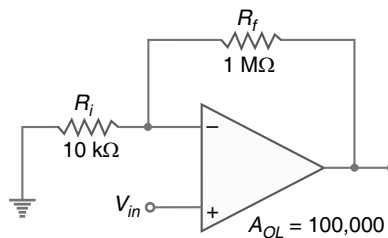

Fig. 23.103
10. Determine the closed-loop voltage gain for the circuit shown in Fig. 23.103. [101]